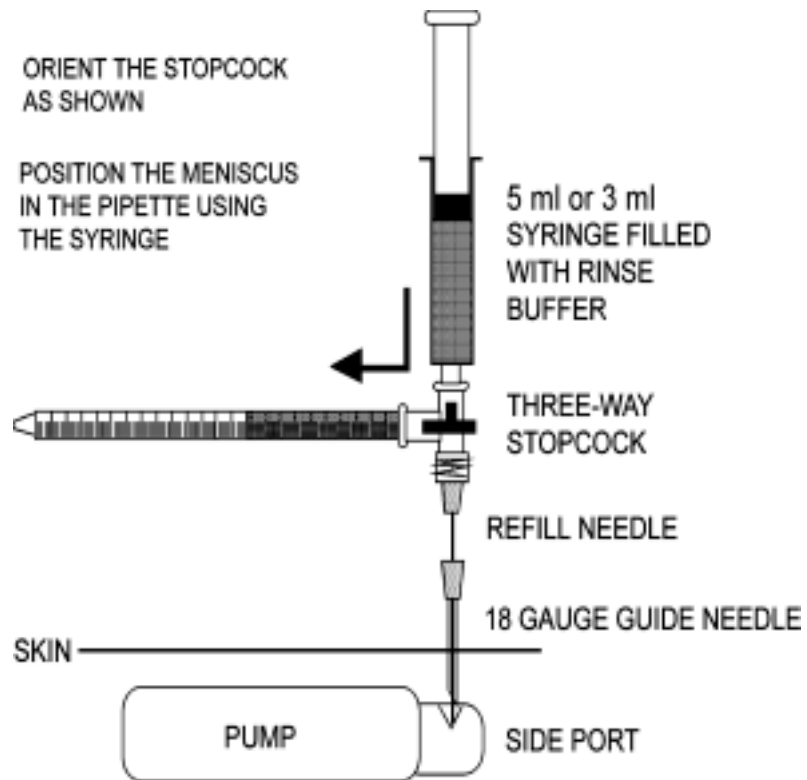

Figure 19: Measuring the Stroke Volume
4. Turn the stopcock, as shown in Figure 19.